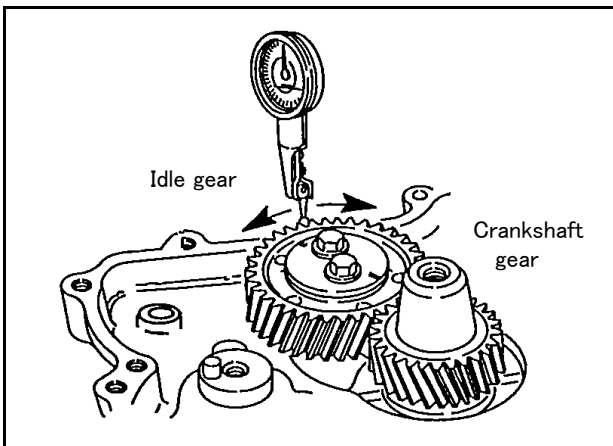

Fig.7-Checking Idler Gear Backlash
1. Check gear backlash between idler gear and crankshaft gear using dial indicator as shown in Fig.7.